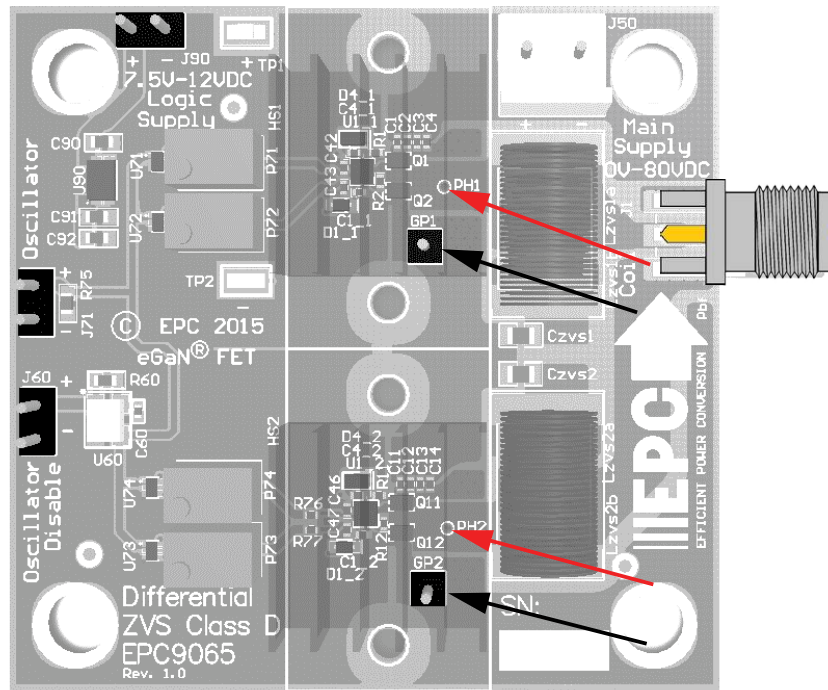

Figure 3: Proper measurement of the switch nodes
2. Connect a LOW capacitance oscilloscope probe to the probe-hole of the half-bridge to be set and lean it against the ground post as shown in figure 3.
NOTE. When measuring the high frequency content switch-node (Source Coil Voltage), care must be taken to avoid long ground leads. An oscilloscope probe connection (preferred method) has been built into the board to simplify the measurement of the Source Coil Voltage (shown in figure 3).